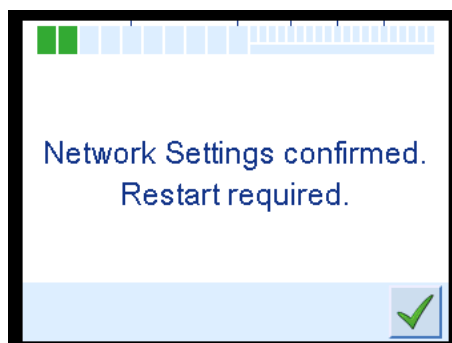

Figure 148:
5. Press the **Confirm** key to confirm the network settings. Figure 148 will appear.